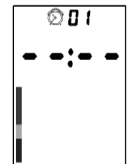

Fig. 4
- When the device stands by, press button 'F' two times to enter into alarm 01 mode, the display will show as Fig.4;